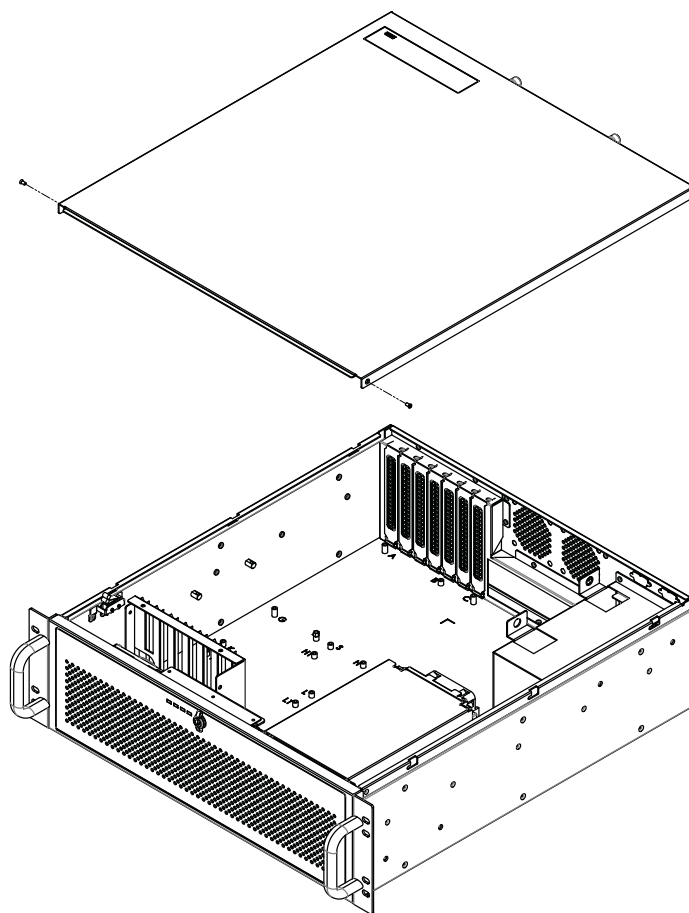

Figure 2.1 Removing the top cover/ 移除顶盖 / 移除上盖
2. Slide the top cover backwards and then lift it up. (see Figure 2.1)
2. 将顶盖向后拉出然后向上抬起。（如图 2.1 所示）